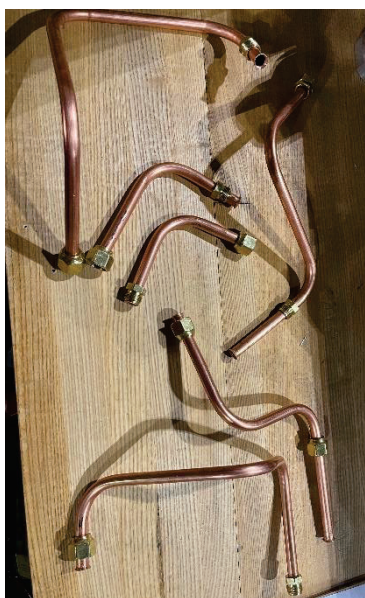

Figure 9-12: Piping removed
3. Using the plastic tube, blow air through the 6 removed copper tubes to remove any potential debris. **See Figure 9-12.**